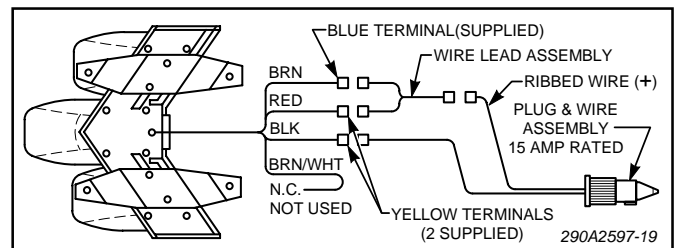

Figure 4.
6. Using the "Y" wire lead assembly, connect the plug and wire assembly to the light assembly's cable as shown in figure 4.